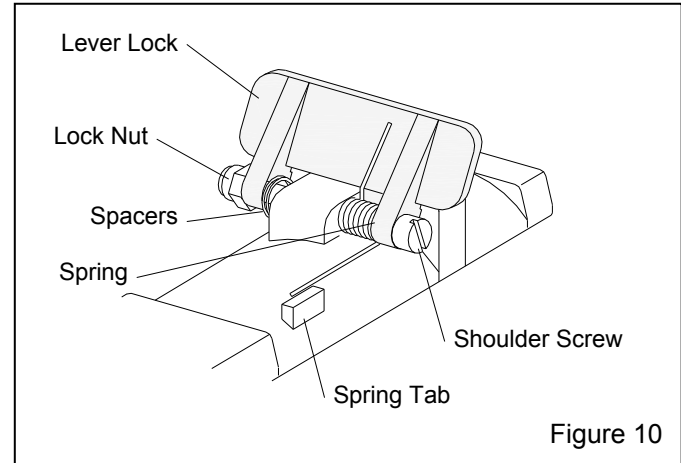

Figure 10
#### 4.4 Lever Lock Replacement – Figure 10
**4.4.1** Remove the lock nut from the shoulder screw. Before removing the screw, note the positions of the spacers and spring, as shown in Figure 10. The bent end of the spring is toward the inside, forcing the lever lock up. The straight end is toward the outside, facing down and against the spring tab.